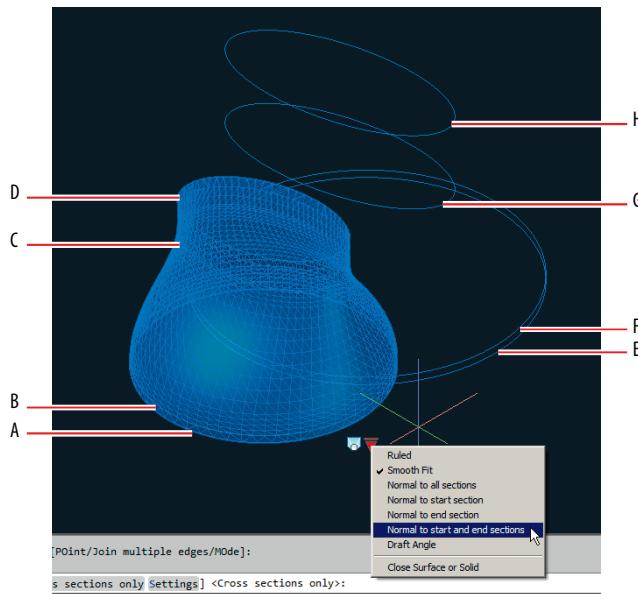

FIGURE 17.20 Lofting one of the two ventilation towers
3. Zoom in on the collection of blue circles and ellipses. Select the Loft tool from the drop-down menu under Sweep on the Solid panel, and press Enter. Select profiles A, B, C, and D shown in Figure 17.20, and press Enter twice. Select the loft object, open the grip menu that appears, choose Normal To Start And End Sections, and press Esc.
4. Press the spacebar to repeat the LOFT command. Select profiles E, F, G, and H, shown in Figure 17.20, and press Enter twice. Select the new loft object, open the grip menu that appears, choose Normal To Start And End Sections, and press Esc. Figure 17.21 shows the result.